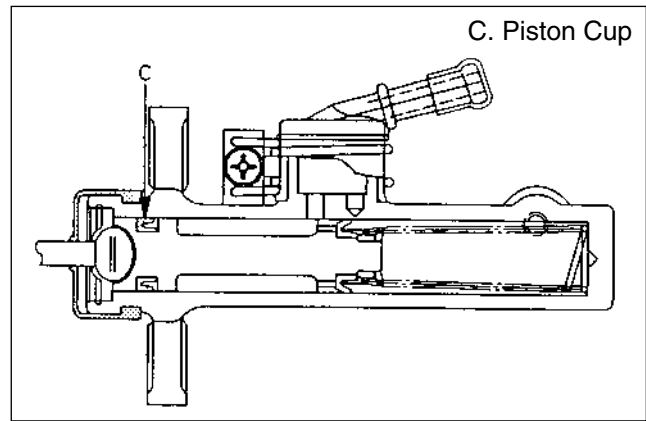

Figure 26. Installing Piston Assembly
2. Piston assembly (4). Install new cup in groove in piston with the lip turned toward the front of the cylinder body. Use care so as not to scratch the lipped portion of the cup (figure 26).
3. Dust cover (4), with snap ring (5).
4. Snap ring (5) to the cylinder body groove.
5. Dust cover (6).
6. Hose joint (1).